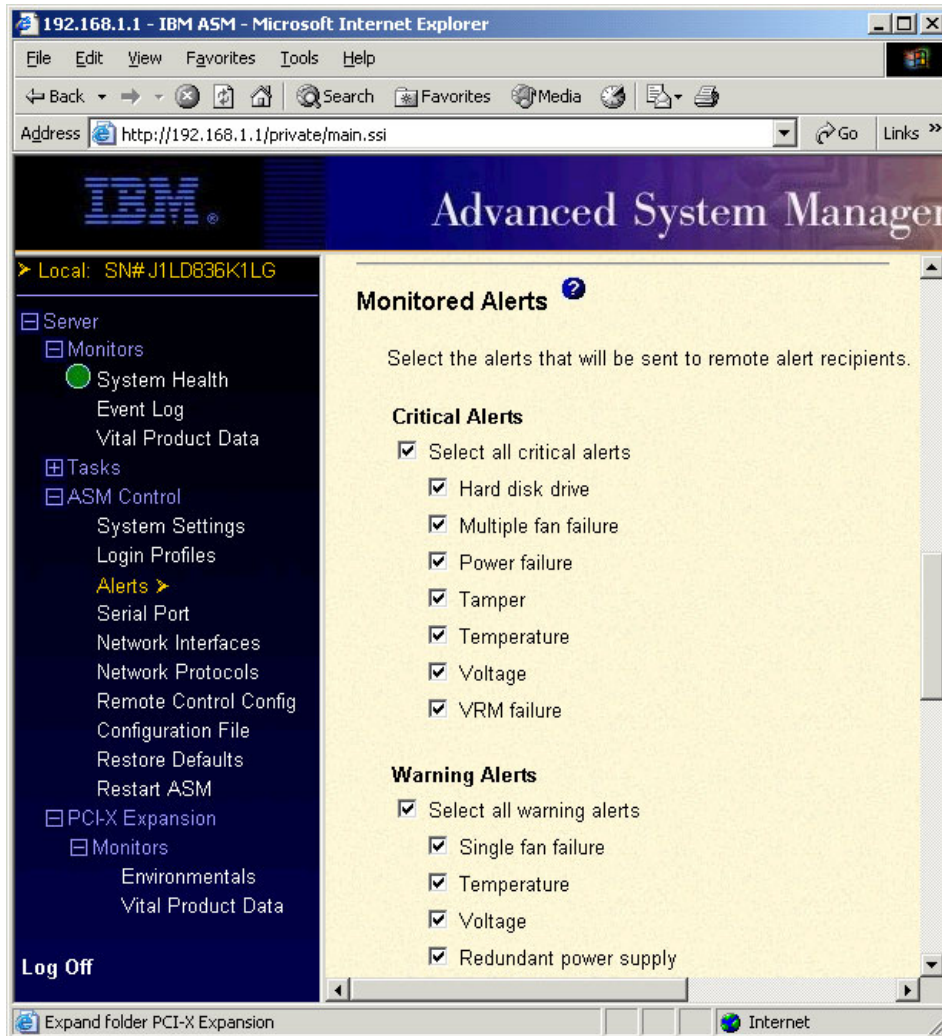

Figure 5-6 Configuring monitored alerts
3. Select the events you wish to monitor. We recommend you enable all events. See Figure 5-6 on page 189.